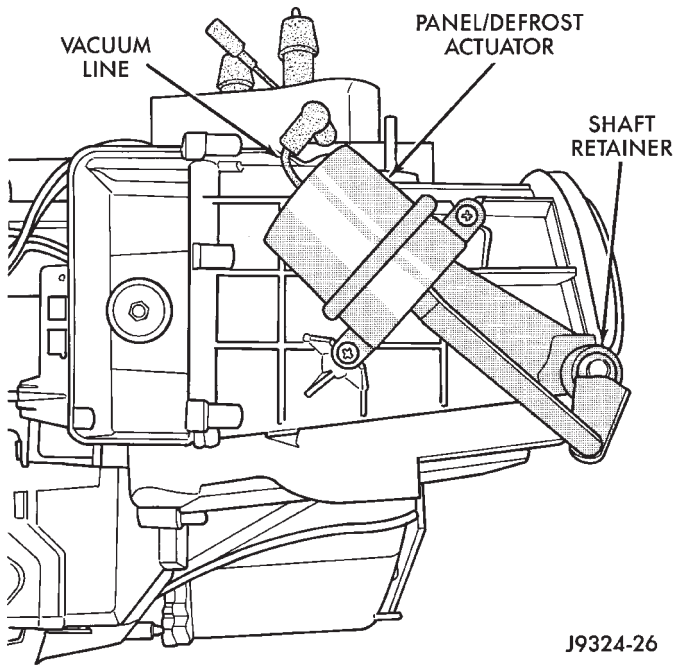

Fig. 26 Panel/Defrost Door Actuator (Heater and Manual A/C)
- (1) Remove the heater-A/C unit from the vehicle (refer to Heater-A/C Unit Removal).
- (2) Disconnect the vacuum line (Fig. 26).
- (3) Separate the door pivot connection from the door pivot pin (Fig. 26).
- (4) Remove the retaining screws.
- (5) Remove the panel/defrost door actuator (Fig. 26).
- (3) Disconnect the actuating rod (Fig. 26 or 28).
- (4) Pry the panel/defrost door shaft retainer from the shaft (Fig. 26 or 28).
- (5) Remove the door through the top opening.